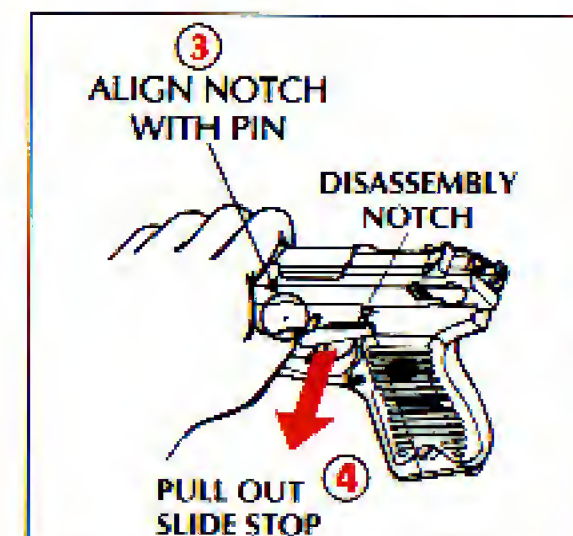
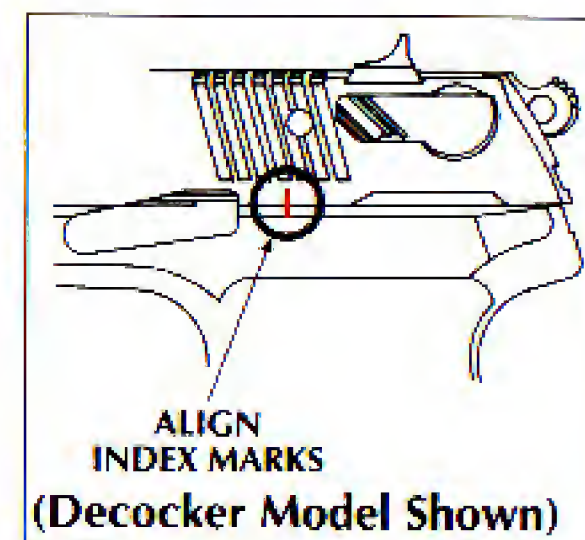

FIGURE 5A
FIGURE 5B
4. Remove fingers from ejection port. Grasp slide tightly. Now press down on slide stop and allow slide to move slowly forward until the slide stop spring retainer pin is aligned with the front edge of the slide stop notch. Press in on right-hand end of slide stop and pull slide stop out of frame to the left until it locks in its withdrawn position. (See Figure 5A, above). Do not attempt to pull it completely out of the frame. For the P94 pistol, press down on the slide stop and allow the slide to move slowly forward until the vertical index marks on the left side of the frame are aligned. (See Figure 5B, above)